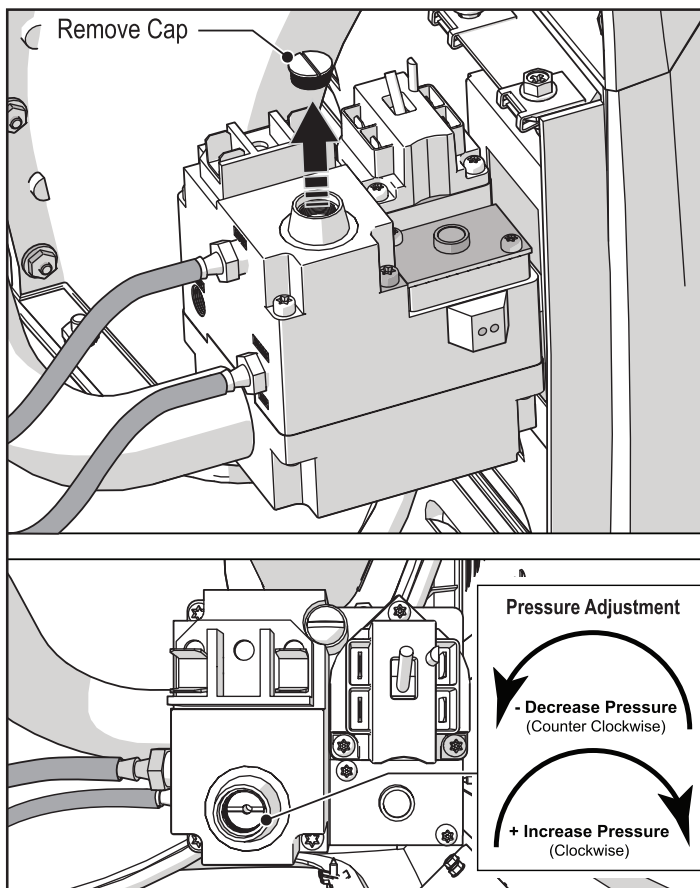

Figure 21. Adjust Differential Offset Pressure
- If the offset pressure is incorrect, adjust pressure by removing the gas valve sealing cap and rotating the plastic screw using a blunt tool, such as a flat head screwdriver (see Figure 21). To make an adjustment, rotate 1/4 turn in either direction.